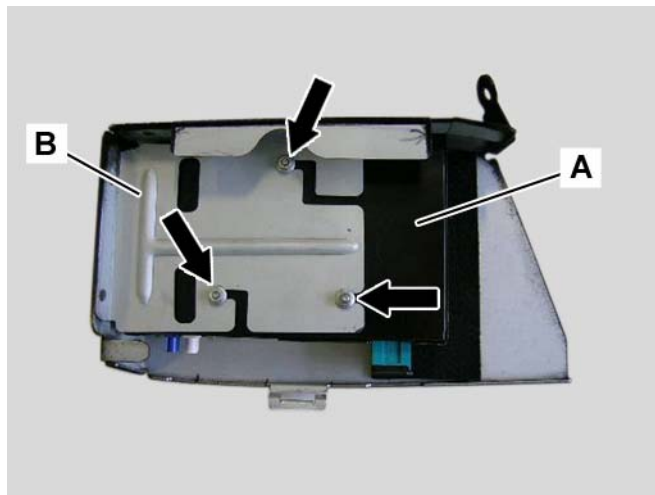

Figure 15
10. Mount the SDARS control module (A, Figure 15) to part B of the bracket (B, Figure 15) with three M5 hex nuts (Arrows, Figure 15).